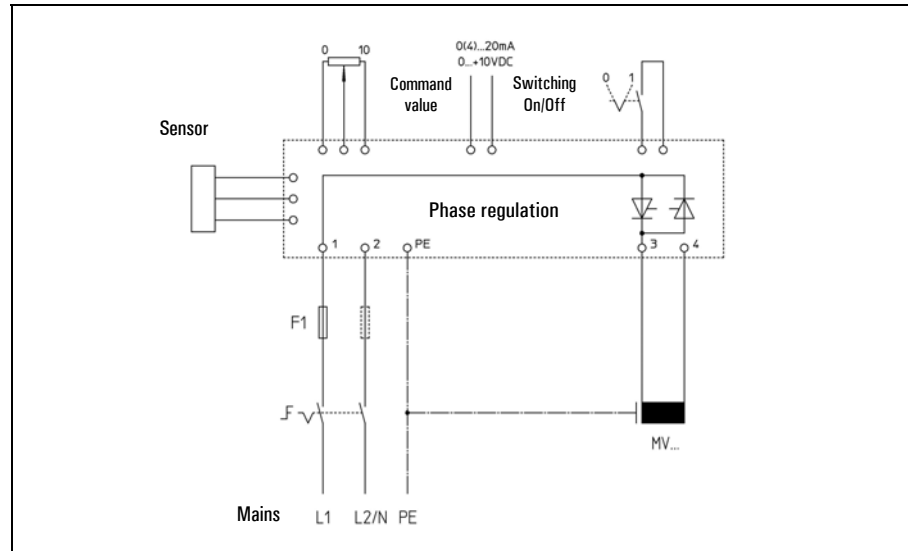
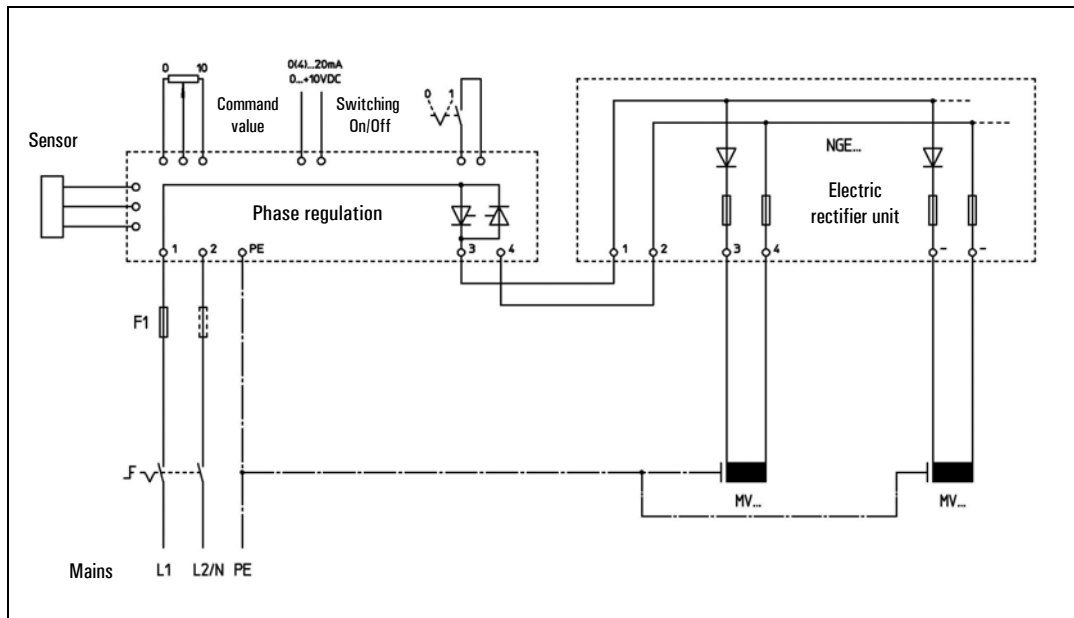

Figure 4-4 Connection diagram, single drive
Figure 4-5 Connection diagram, multiple drives
Depending on the application a single magnetic vibrator (see figure 4-4) or up to 4 magnetic vibrators (see figure 4-5) can be operated with a single controller. Also the connection of a sensor with a AViTEQ controller of the type SRA... in special version with level scanning system or part overflow controller is possible.
For single drives the wiring has to be carried out as shown in figure 4-4 below.
If several magnetic vibrators (multiple drives) are operated with a common controller the wiring has to be carried out as shown in figure 4-5 below..
*With multiple drives (s. figure 4-5) further an AVITEQ electric rectifier unit (NGE...) is required to avoid the magnetic vibrators effecting each other in a negative way!*